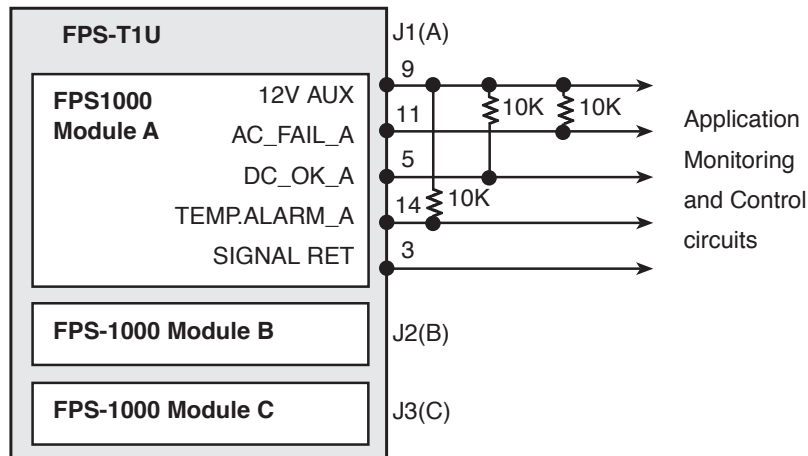

Fig 19-5 Supervisory Signals
Signals are accessible at the J1(A), J2(B), J3(C) connectors on the rear panel of the rack Fig 19-5 shows typical connection for FPS1000 unit 'A' inside the rack Units 'B' and 'C' connections - Refer to 17.7.5